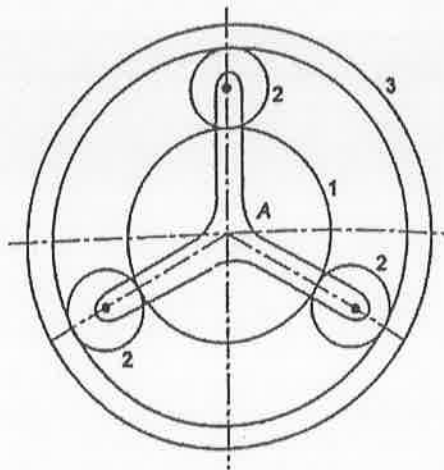

Fig. 16(a) Epicyclic gear train
16. (a) The pitch circle diameter of the annular gear in the epicyclic gear train shown in Fig. 16(a) is 425 mm and the module is 5 mm. When the annular gear 3 is stationary, the spindle A makes one revolution in the same sense as the sun gear 1 for every 6 revolutions of the driving spindle carrying the sun gear. All the planet gears are of the same size. Determine the number of teeth on all the gears.